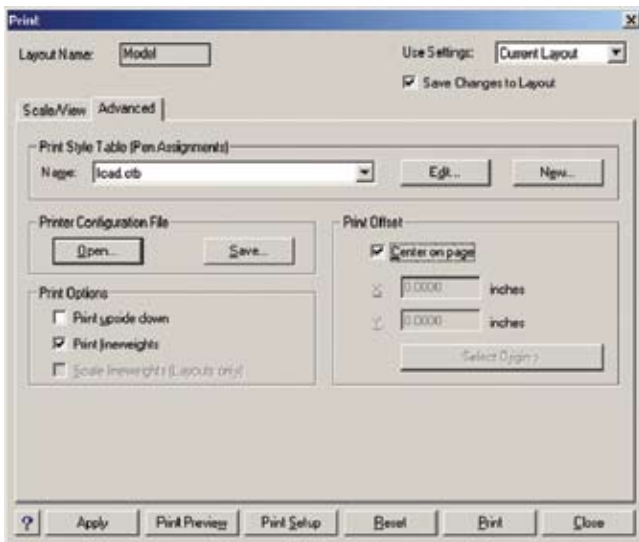

Figure 1.5
- A Print Setup dialogue box appears (see figure 1.5).
- The dialog box should now look like Figure 1.5.